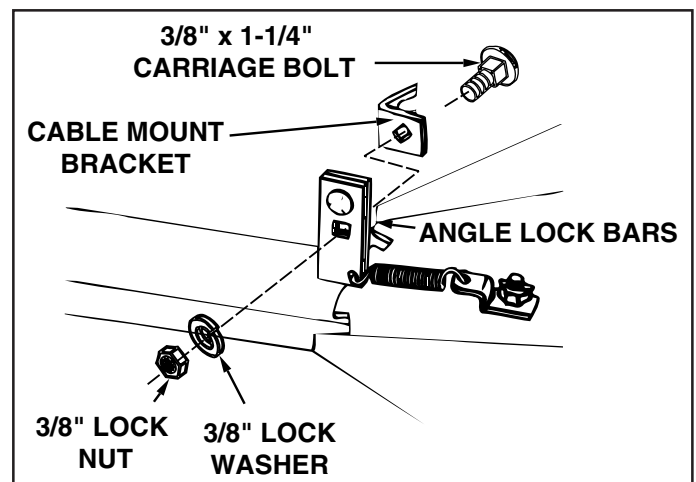

FIGURE 12 (Right Hand Side View)
- Assemble 3/8" x 1-1/4" carriage bolt through square hole in cable mount bracket and through square hole in angle lock bars. See figures 12 and 13. Note that top bolt faces in opposite direction. Hold cable mount bracket in position as shown in figure 12 and secure with 3/8" lock washer and 3/8" lock nut. **Tighten.** See figures 12 and 13.